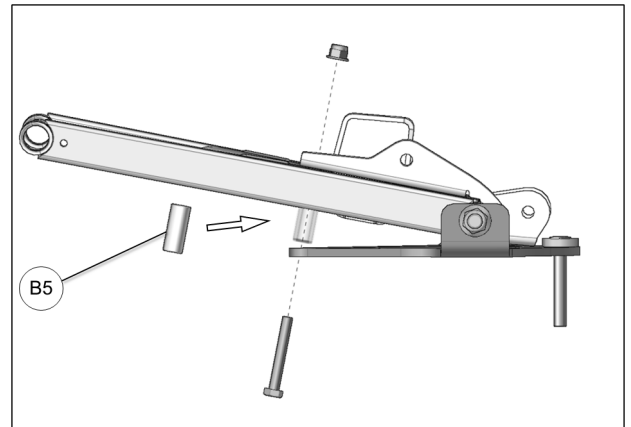

Fig. 8
7. Position spacer bushing (**B5**) between anchor bracket and lower suspension arm, in line with holes at the back of anchor bracket and in suspension arm. See Fig. 8